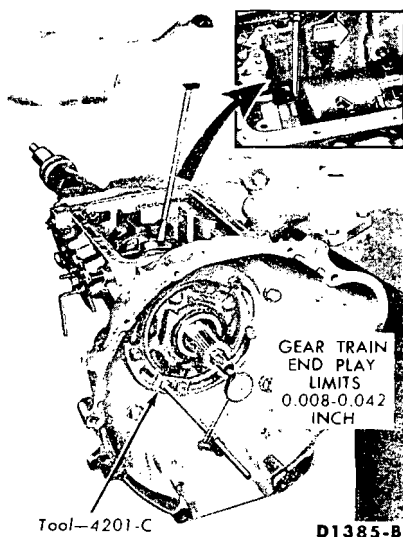

FIG. 40—Checking End Play
2. Remove one of the front pump-to-case attaching bolts and mount the dial indicator as shown in Fig. 40.
4. With the dial indicator contacting the end of the input shaft, set the indicator at zero (Fig. 40).
5. Insert a screwdriver behind the input shell (Fig. 40). Move the input shell and the front part of the gear train forward.